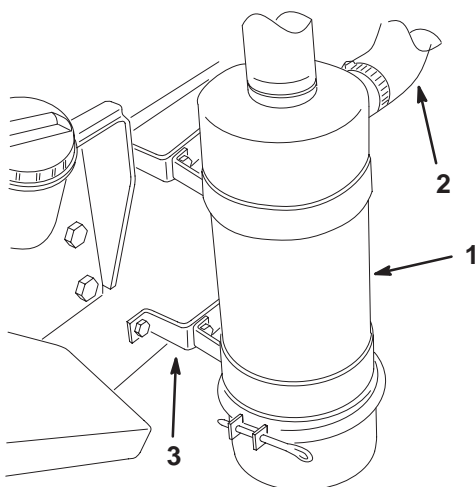

Figure 5
1. Disconnect air cleaner hose from air cleaner body (Fig. 5).
2. Loosen bands securing air cleaner body to mounting brackets (Fig. 5).
3. Remove (4) screws securing air cleaner mounting brackets to left side of frame (Fig. 5). Remove air cleaner brackets. Discard fasteners.